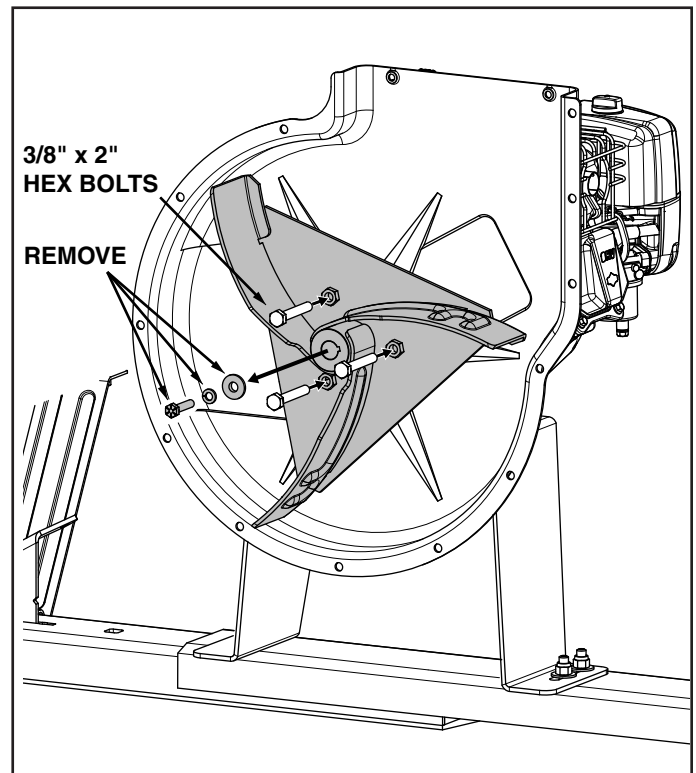

FIGURE 18
2. Remove the bolt from the impeller hub. See figure 18.
3. Screw three 3/8" x 2" full thread bolts into the three nuts welded to the impeller until they contact the housing behind the impeller. See figure 18.